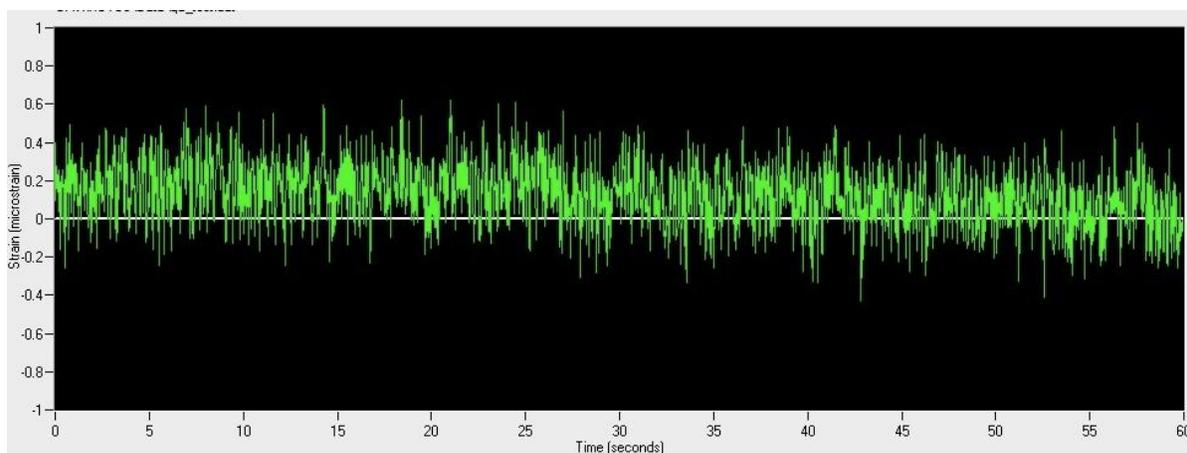

Figure 5-6 Typical noise level from a 24-bit data acquisition system
1. Start a test and ensure the resolution of the foil gage is as expected for the data acquisition system that is being used (BDI generally uses a 24-bit data acquisition system and the resolution of a single foil gage with the QACM is less than $\pm 1\mu\epsilon$). See Figure 5-6 to see an example of the typical noise level from a 24-bit data acquisition system.